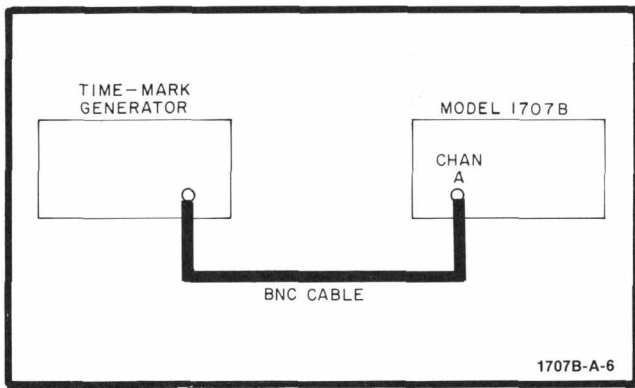

Figure 5-8. Delayed Sweep Time Test Setup
- a. Connect instruments as shown in figure 5-8.